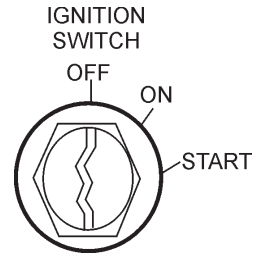

Figure 22. Ignition Switch
3. Insert the ignition key into the ignition switch (Figure 22), turn the key to the **ON** position, then to the **START** position, release the key when the engine starts.
3. Turn the ignition key (Figure 22) to the **OFF** position.